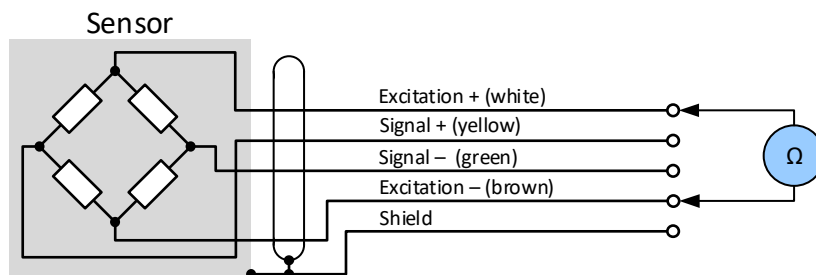

Fig. 10. Sensor resistance test
5. **Sensor resistance test**. If the sensor voltage excitation without sensor (test 3) is OK and the voltage with sensor is smaller, the sensor is probably damaged. Measure the resistant of the sensor according to figure 10. The right value is in the datasheet of the sensor, usually between 370 and 400  $\Omega$ .